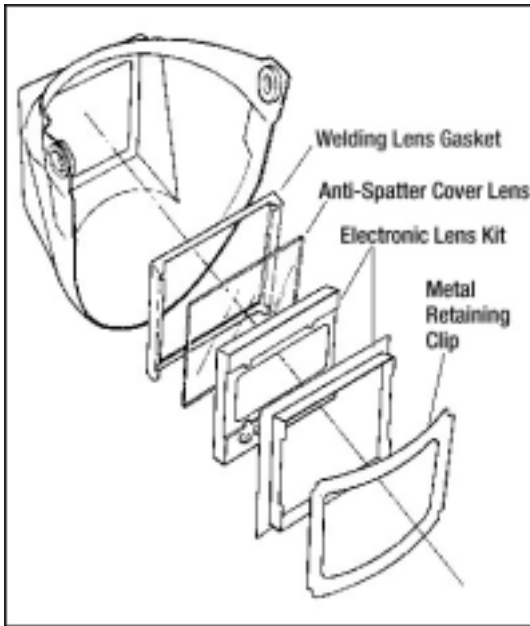

Fig 1
The assembly is installed in the 3M™ Welding Shield 061-31-01R01. Refer to Figure 1 for proper installation of the component parts.
1. Assemble the lens stack parts as shown in Fig. 1. Be sure to stack the parts in the indicated sequence.